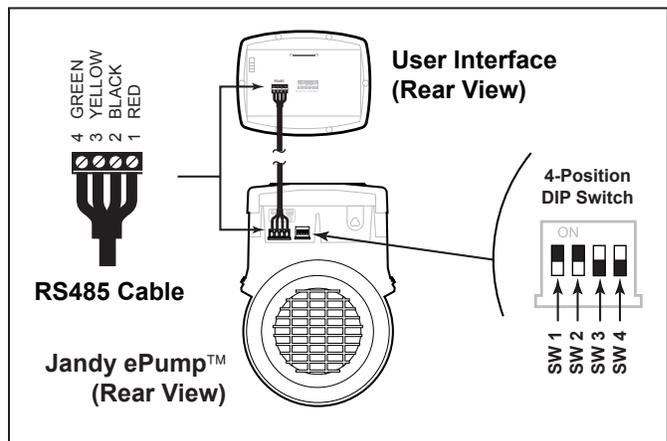

Figure 4. Wiring the User Interface to the Jandy ePump Variable Speed Pump
7. Set the DIP switch settings for the pump controller with the 1 and 2 in the ON position and 3 and 4 in the OFF position. See Figure 4.